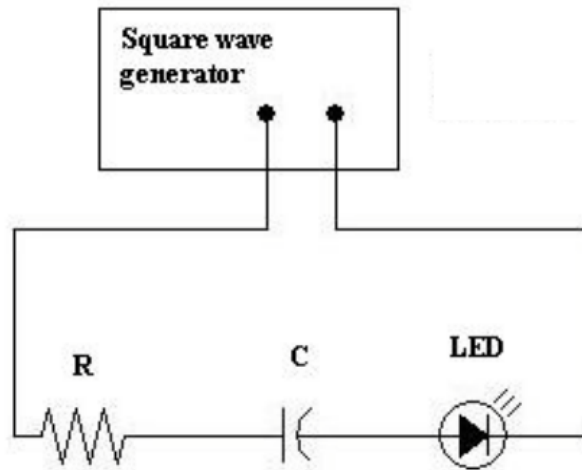

Figure 4.9: Schematic for an oscillating RC circuit with an LED.
In this part of the experiment you will build the circuit in Fig. 4.9 and use a square wave generator (Fig. 4.10) and a two-color light emitting diode
1. Use a **100  $\Omega$**  resistor (different from the first part of the lab!), a 1 000  $\mu\text{F}$  capacitor, an LED, and a signal generator to build the circuit shown in Fig. 4.9.